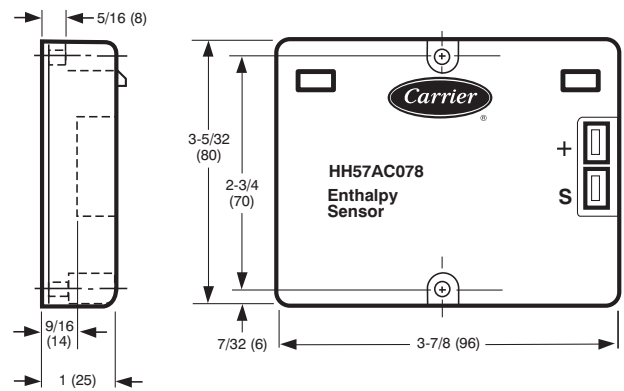

**Fig. 3 - Back View — Damper Motor Access Panel Location**
2. Remove the damper motor access panel at the back of the unit. (See Fig. 3.) Save screws for use in Step 7.